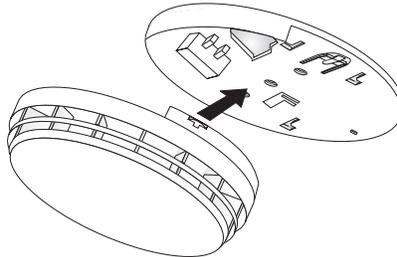

Figure 1b: Attaching smoke alarm to the mounting plate
- § Model Ei405TY — sliding the unit on to the mounting plate will connect the batteries (see figure 1b). Press the test button and horn should sound.
6. Carefully line up the unit on the base and slide on as shown in figure 1b. (This connects the batteries in the Ei405TY Smoke Alarm).